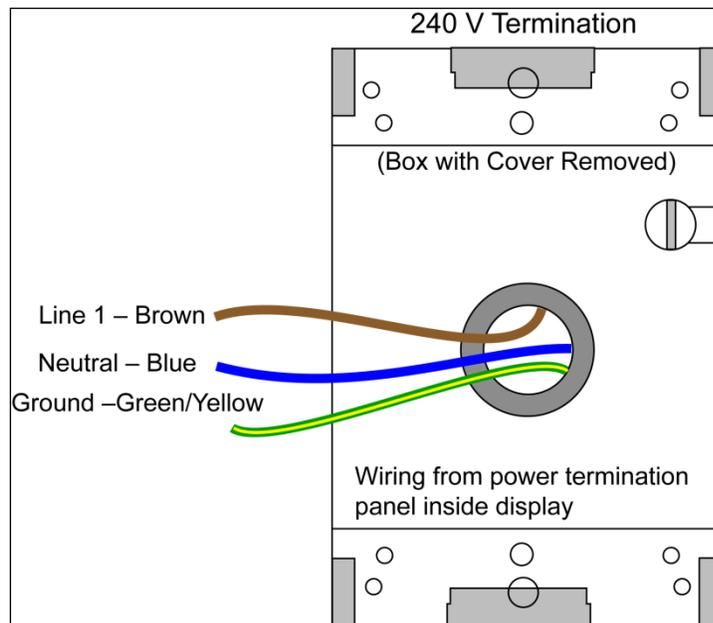

Figure 40: 240 V Power Termination
3. Inside the display's external power termination J box, connect the power wires to the wires coming from the display interior using wire nuts. Refer to **Figure 40**.